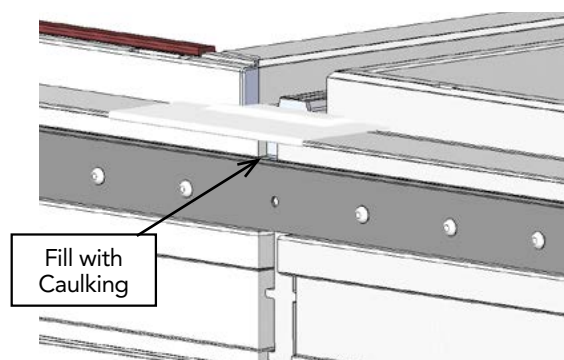
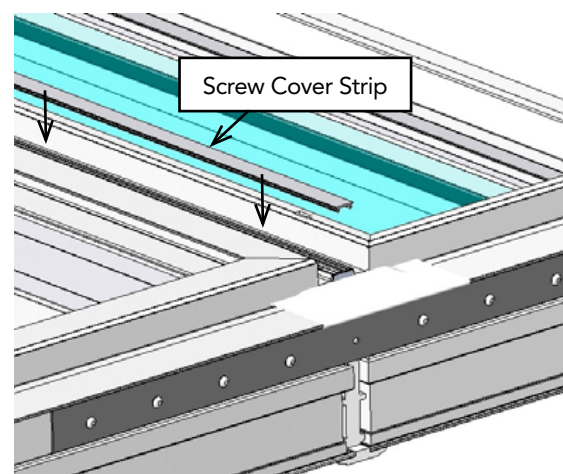

Figure 24
Figure 25
28. Finish filling the ends with caulking, covering the portion of the end plug under the nailing fin (**Figure 24**). Snap the screw cover strip into each exterior mullion as shown (**Figure 25**).